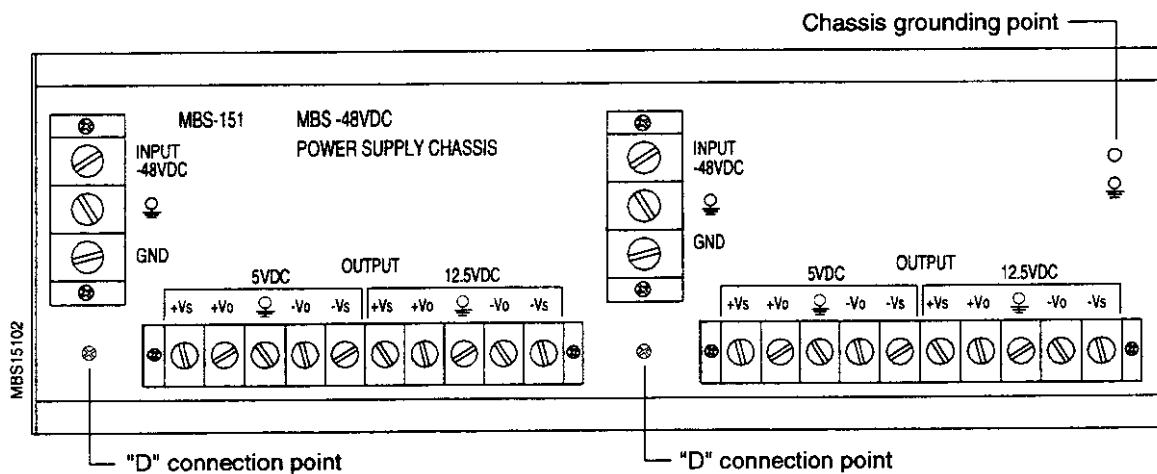

Figure 3-2 MBS Power Supply Chassis (rear view)
All connections to/from the MBS Power Supply Chassis are through terminal strips on the chassis rear panel, as shown in Figure 3-2. There are two sets of output terminal strips and two sets of input terminal strips, corresponding to each of the two MBS Quads that can be supported by the MBS Power Supply Chassis. For safety, connections should first be made to each MBS Quad that is to be powered and then to the -48 VDC input.
2. Connect the Quad power harness lead labeled "D" to the MBS Power Supply Chassis ground terminal identified in Figure 3-2.